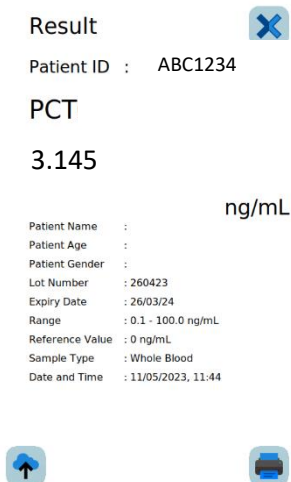

Fig. 3 Result Screen
4. Once the test is complete, the result screen [Fig. 3] shall display which includes, patient details, test details, result value, date & time and a data.